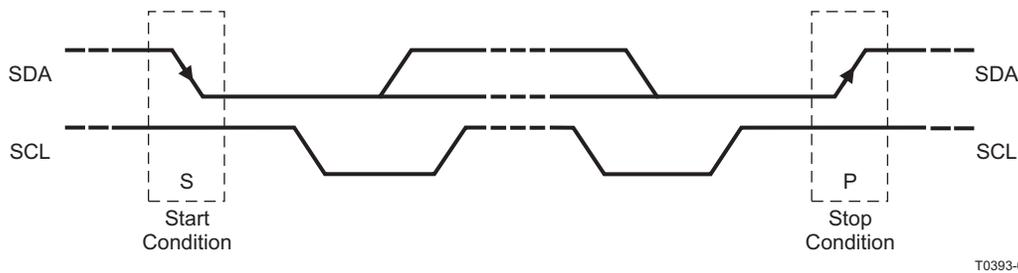

Figure 36. I2C Start and Stop Conditions
The basic I2C start and stop access cycles are shown in Figure 36.
- The *master* initiates data transfer by generating a *start condition*. The *start condition* is when a high-to-low transition occurs on the SDA line while SCL is high, as shown in Figure 36. All I2C-compatible devices should recognize a *start condition*.
- To signal the end of the data transfer, the master generates a *stop condition* by pulling the SDA line from low to high while the SCL line is high (see Figure 36). This releases the bus and stops the communication link with the addressed slave. All I2C compatible devices must recognize the stop condition. Upon the receipt of a *stop condition*, all devices know that the bus is released, and they wait for a *start condition* followed by a matching address.